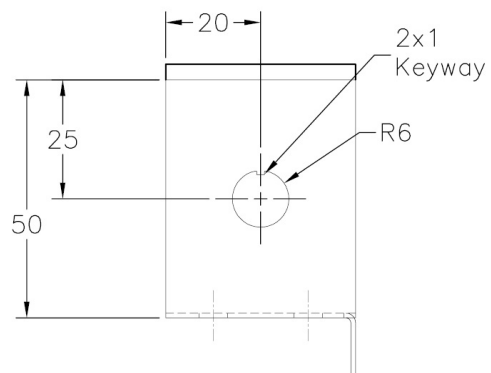

Figure 15-107c Left view of the component
2. Create a sketch point at the center of the face of the right flange. Note that the vertical dimension of the point from the top edge should be 25 mm and its horizontal dimension from the left edge of the flange should be 20 mm, refer to figure 15-107c.